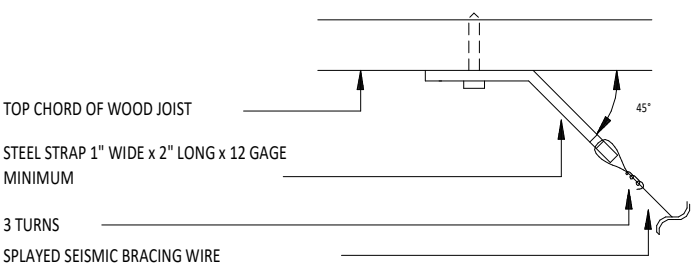

FIGURE 6b
- SEISMIC SPLAY WIRES SHALL BE ATTACHED TO THE GRID AND TO THE STRUCTURE IN SUCH A MANNER THAT THEY CAN SUPPORT A MINIMUM DESIGN LOAD OF 800 LB OR THE ACTUAL DESIGN LOAD, WITH A SAFETY FACTOR OF 2, WHICHEVER IS GREATER (FIGURE 6b). SOURCE: CISCA ZONES 3.4